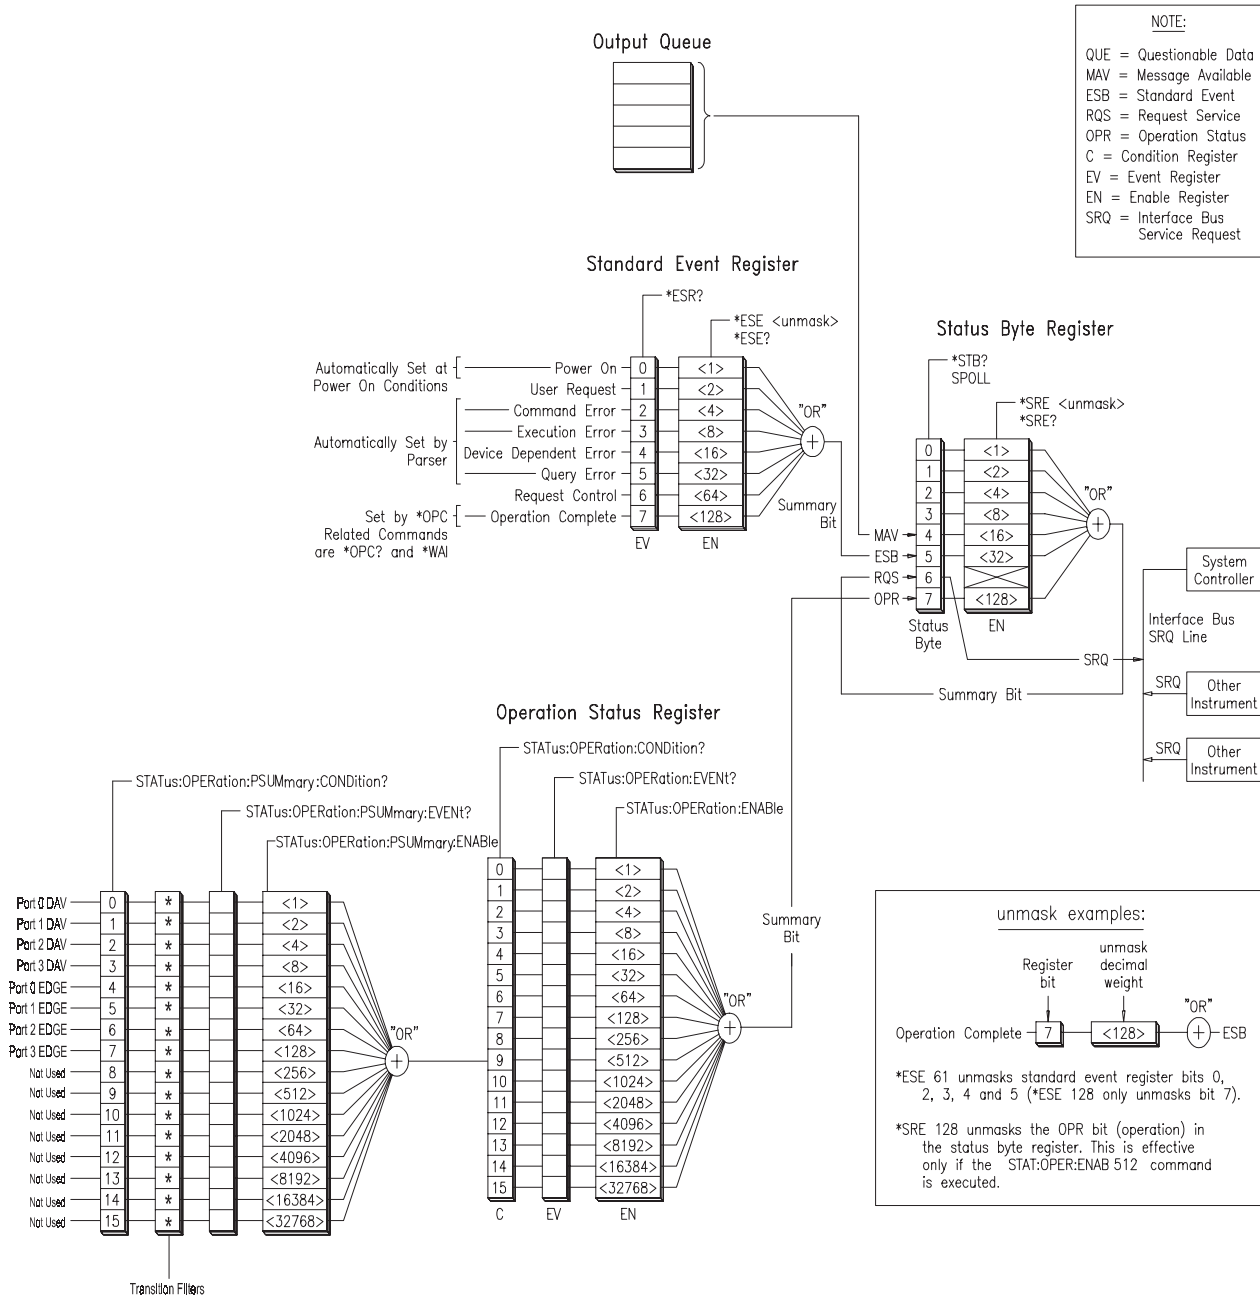

Figure 3-1. HP E1459A Status System Register Diagram
The STATUS system contains five registers, two of which are under IEEE 488.2 control: the Event Status Register (\*ESE?) and the Status Byte Register (\*STB?). The Operational Status bit (OPR), Service Request bit (RQS), Event Summary bit (ESB), Message Available bit (MAV) and Questionable Data bit (QUE) in the Status Byte Register (bits 7, 6, 5, 4 and 3 respectively) can be queried with the \*STB? command. Use the \*ESE? command to query the *unmask* value for the Event Status Register (the bits you want logically "OR'd" into the Summary bit). The registers are queried using decimal weighted bit values. The decimal equivalents for bits 0 through 15 are included in Figure 3-1.
- <mask> determines which OPERation Status conditions are summed. See Figure 3-1. The events detected in the Port Summary Status Register are reported in bit 9 of the Operation Status Register which in turn is reported in bit 7 of the Status Byte Register.
- The only defined bit is bit 9 which is the summary of the Data Available and Edge Status for Ports 0, 1, 2, and 3. See Figure 3-1.
- Bits 0 through 3 reflect Data Available on Ports 0 through 3 respectively; bits 4 through 7 reflect edge events on Ports 0 through 3 respectively. See Figure 3-1.
- This mask determines which Operation Status Port Summary Events are summed and reported in bit 9 of the Operation Status Register. Bits 0 through 3 reflect Data Available on Ports 0 through 3 respectively; bits 4 through 7 reflect edge events on Ports 0 through 3 respectively. See Figure 3-1.